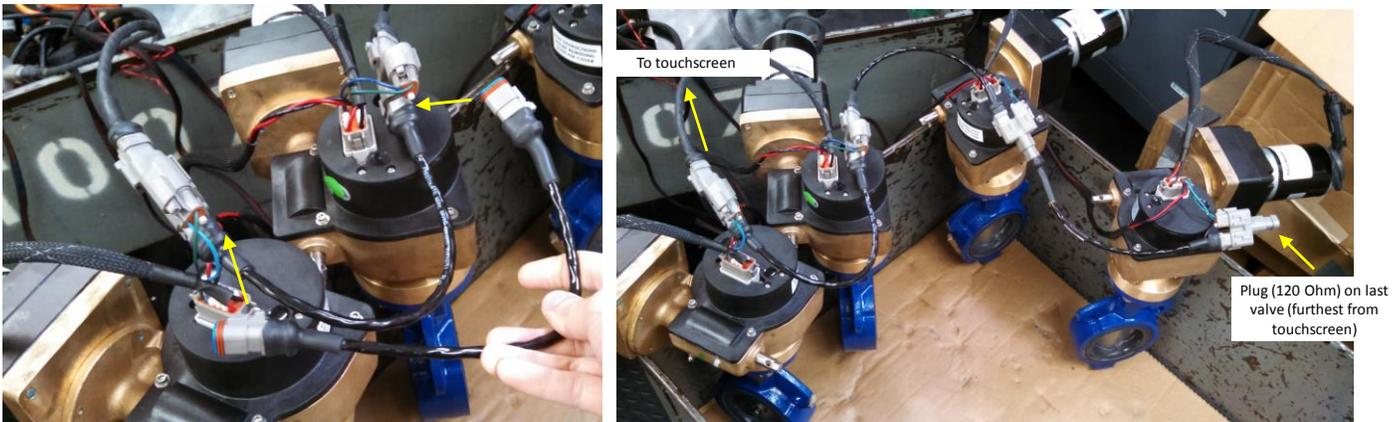

Figure 19. Connecting CAN cables between valves
5. Connect a supplied, 1-ft CAN cable between each valve. Refer to Figure 18 and Figure 19 for examples of how the valve CAN connections are daisy-chained.